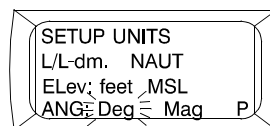

Figure 12. Deg Display
11. Press the up arrow key (figure 1, item 2) or down arrow key (figure 1, item 3) until Deg is flashing for ANG (figure 12).